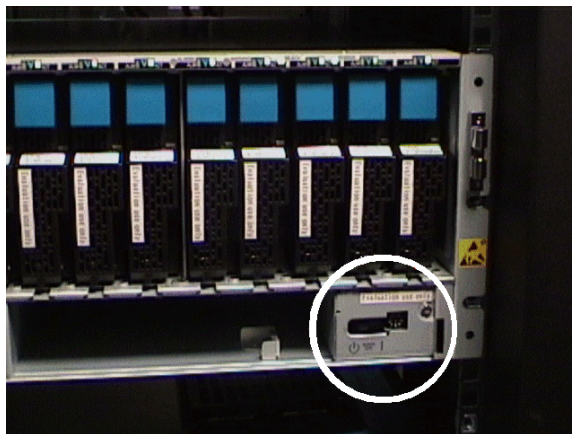
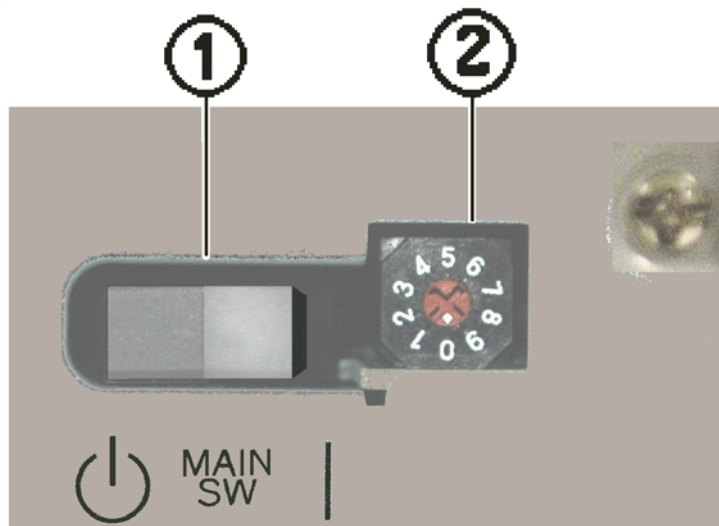

Figure 6-1: Base Unit Switch Panel Location
Figure 6-2: Base Unit Switch Panel
The power ON/OFF buttons on the front bezel actuate the Main Switch on the front of the base unit (behind the front bezel). The Main Switch is a rocker switch on the switch panel, which is located in the lower right corner on the front panel of the base unit. See Figure 6-1 and the expanded view in Figure 6-2 on the next page.
1. Press the right side of the Main Switch. As shown Figure 6-2, the power ON side of the switch is labeled . This applies power to the control units and to the disk drives.